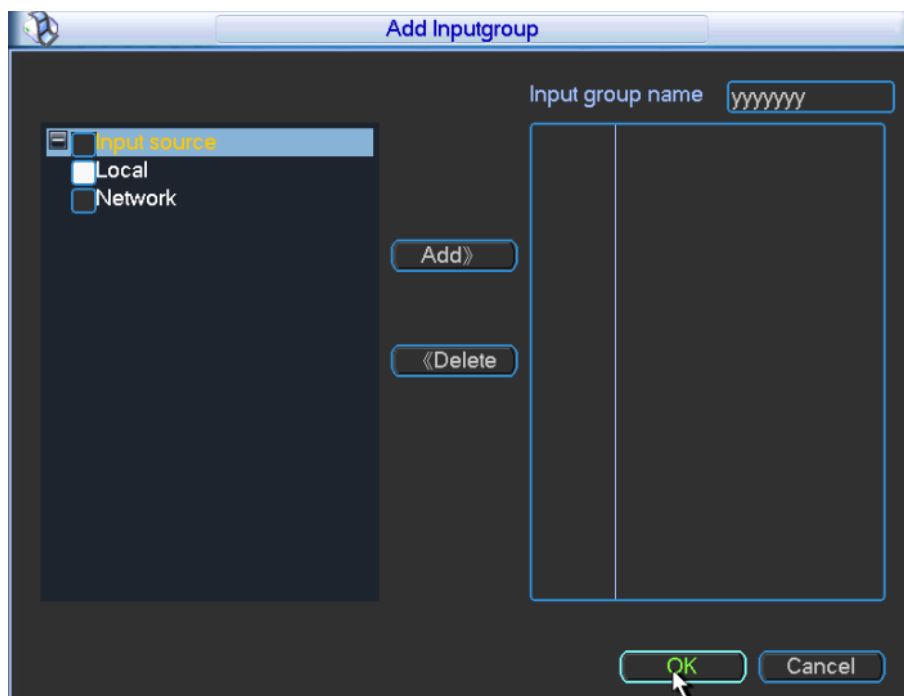

Figure 4-11
Step 4 Enter “Input Group Name” and click “OK”, as shown in Figure 4-11.